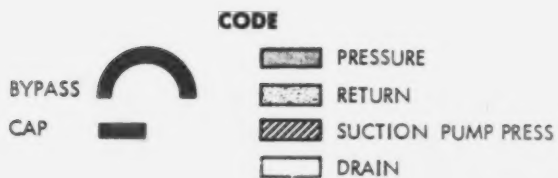

Figure 1-5. Flushing procedures.
Flushing. Flushing a hydraulic system can be as simple as hooking a hydraulic test stand up to the aircraft and operating the subsystems a sufficient number of times to remove all the contaminated fluid. In other instances, it can get quite involved. To show you how involved flushing a system can get, we cover the flushing procedure of a typical system. Refer to figure 1-5. Let's say that engine-driven pump (1) has failed. First, remove the failed pump and flexible hose assemblies (2) that attach directly to the pump. Next remove and replace the elements in the filter assembly (4). Some valves such as (5) will have to be removed and new ones installed. Other valves will be removed, cleaned, and reinstalled. As you can see on figure 1-5, many of the valves (6, 7, 10, 11, 13, and 14) have been bypassed with flexible hose, and other sections have been capped off. The reservoir (8) will have to be drained. Once all this work has been done, fluid is then forced through the lines to remove any contamination from the system. When the contamination has been removed, the system must be assembled into its original condition. Sound like a lot of work? You bet.